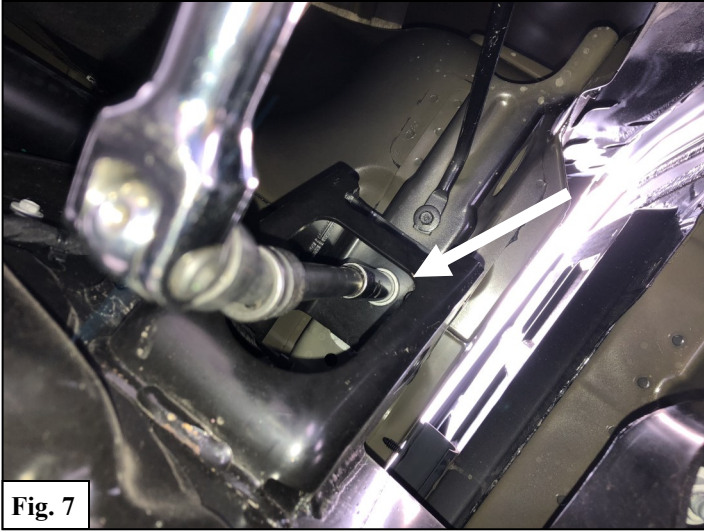
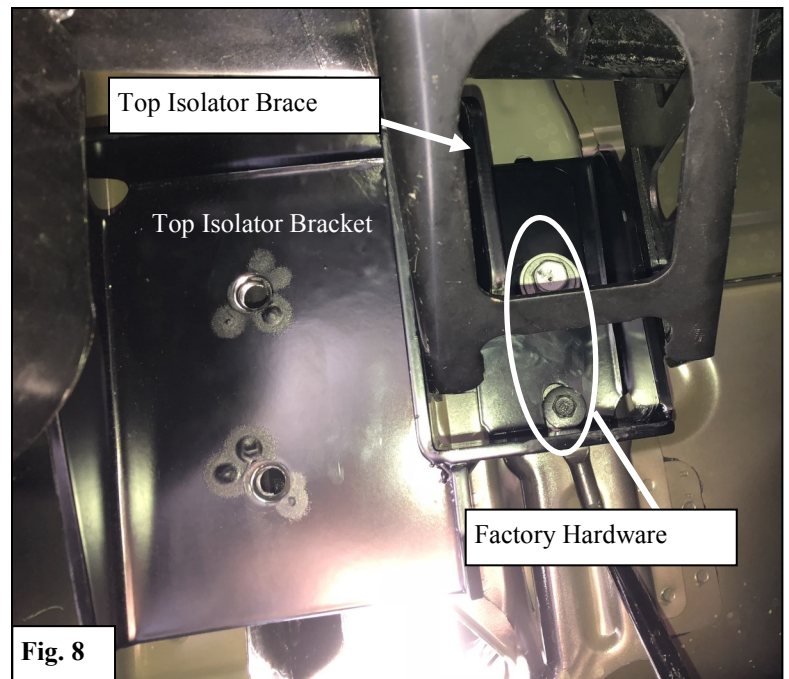

Fig. 7
Fig. 8
6. At the front passenger mounting location, loosely install Front Mounting Bracket (2) with preassembled Mounting Bracket Base (5). **Note:** Installation is similar to others.
8. Moving to the rear-most location, install the Top Isolator Bracket (6), Top Isolator Brace (7), and Bottom Isolator Bracket along with the Isolator Kit (9). See **Figures 8 & 9**. You will need to first remove the bolt in the bed as shown in **Figure 7**. **Note:** A breaker-bar or impact gun will help in removal. The bolt is very tight.